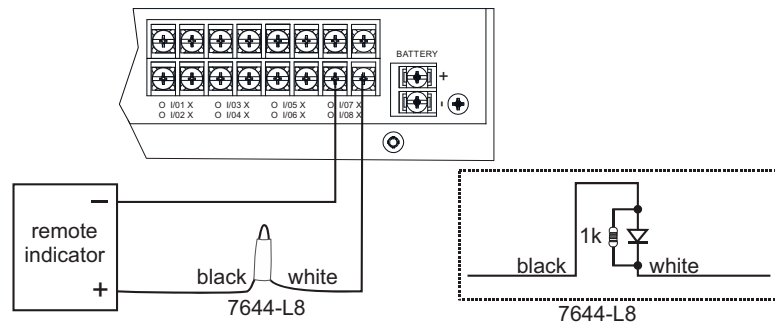

Figure 4.58 Polarity Reversal Connection Using the 7644-L8
- Wire the 7644-L8 to the control panel as shown in Figure 4.58. Do not install an EOL resistor on the terminals of the circuit used.